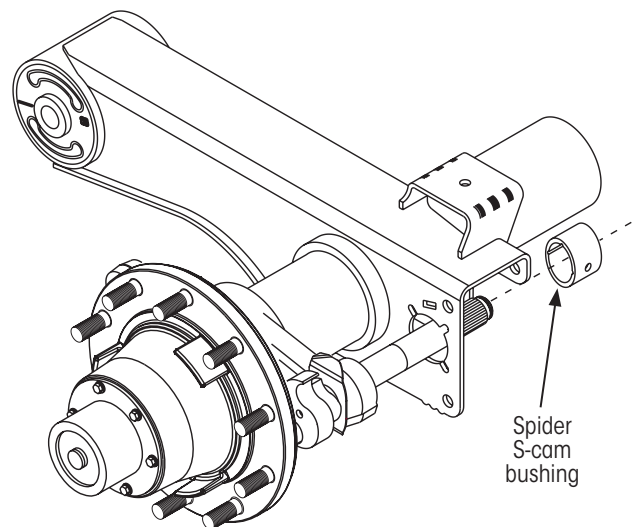

Figure 20: Installing the spider S-cam bushing
2. **Slide** the spider S-cam bushing onto the S-cam (Figure 20).